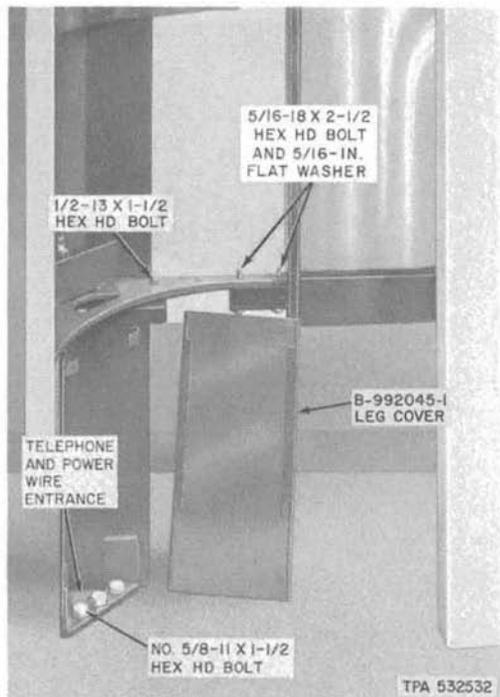

Fig. 21—Assembly of Kiosk, Leg, and Bottom Panel Support
- (6) Raise kiosk into position over base assembly and secure legs to base using six 5/8-11 by 1-1/2 inch hex head bolts (Fig. 21) which are furnished. See **THINK** under (4).
- (7) Do not install leg covers at this time.
- (8) Remove all packing material from kiosk including remaining part of bottom skid.
- (9) Loosen the eight bolts installed in (4) and level the kiosk with the six leveling studs installed in (5). When the kiosk is perfectly level, tighten the eight bolts.
3.16 Install the leg covers as follows (Fig. 21 and 22):
- Loosen four 5/16-18 by 2-1/2 hex head bolts (Fig. 21) which secure lower support to frame.